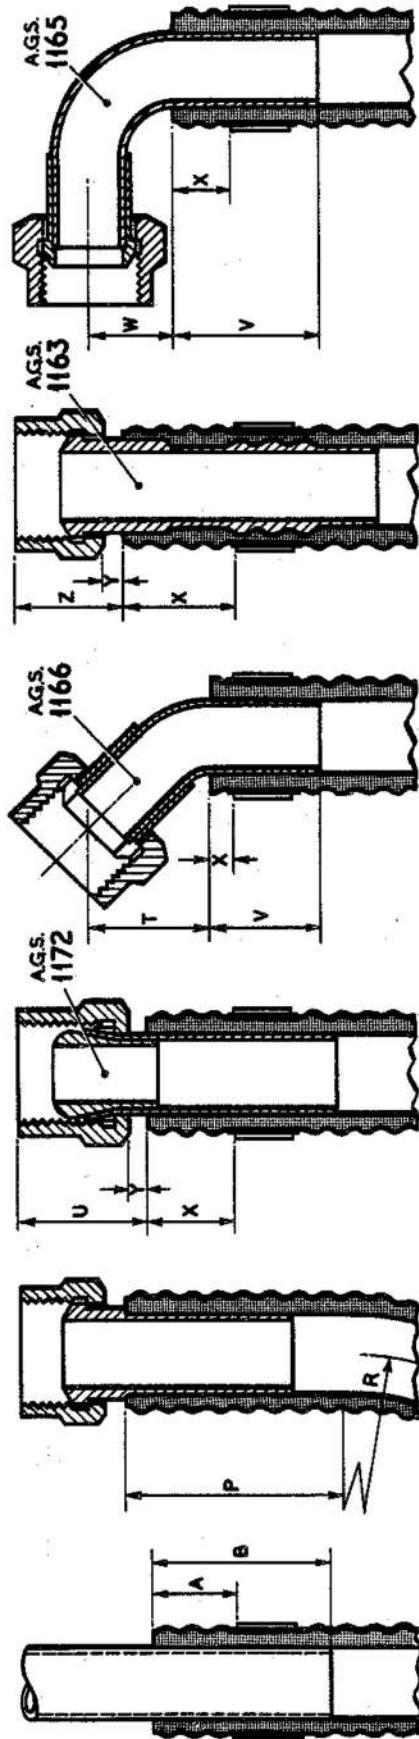

Fig 3 AGS end fittings for Flexatex C6 and other hoses
8 Only AGS end fittings may be used with Flexatex C6 hose (fig 3). The AGS series numbers to suit the various sizes of this hose are tabulated in Table 1.
- 9.6 Immediately force the hose on to the shank with a rotary movement until the shoulder of the shank lightly compresses the end of the hose or, where an unshouldered connection is used, to the length specified in fig 3 in conjunction with Table 2.
- 9.7 Secure the hose in position with an AGS 605 hose clip, having previously fitted a wrapping of tape (Ref No 5F/454 or similar) around the hose under the clip. The position at which the clip is to be fitted is shown in fig 3. Care must be taken not to overtighten the clip, as otherwise the hose material will tend to 'flow' from under the clip. The hose may be installed not less than five minutes after the joint has been made.